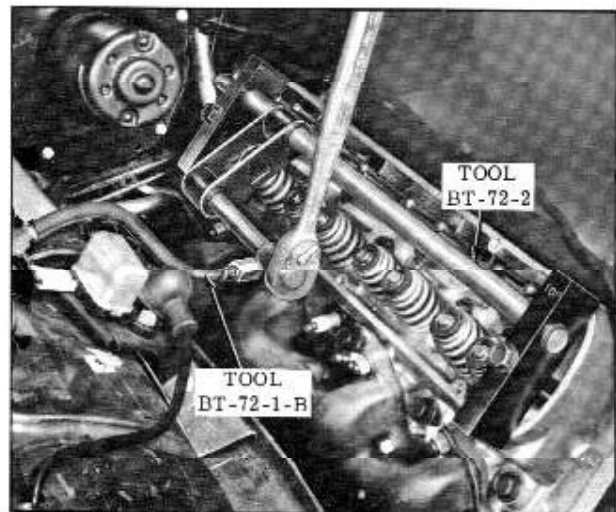

Fig. 8-21 Removing Valve Springs
- Install Tool BT-72-2, (Fig. 8-21), compress the valve spring until valve keys are accessible, then remove keys, springs retainer cup, and spring.